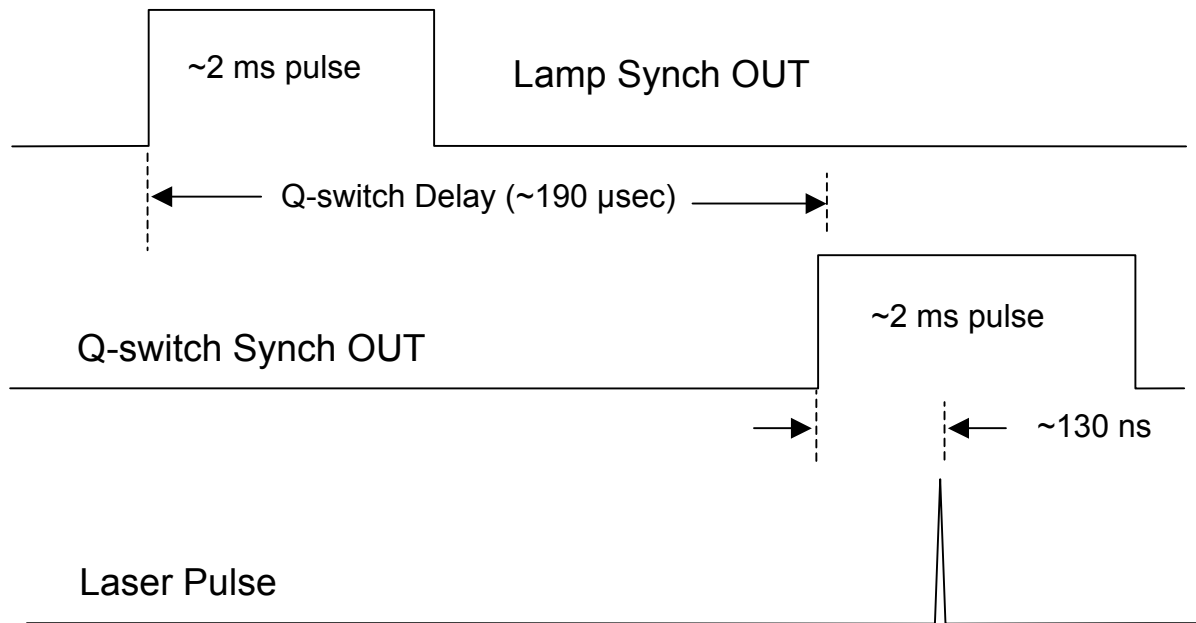

Figure 4-3: Timing Diagram for Internal Triggering
- “EXT” – The Q-switch will fire at a user defined time when a pulse is input to the “Q-switch Trigger” BNC. NOTE: Pulse energy and pulse stability will vary depending upon the timing between the “Fire Laser” signal and the “Fire Q-SW” signal. Refer to Figure 4-3, the timing diagram for the optimum setting for the highest pulse energy and the best pulse to pulse stability.
Two output signals are available to synchronize the Tempest and the user’s setup. The relationship between the synchronization pulses and the laser pulse are shown below in Figure 4-3.